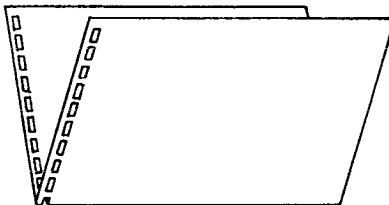

Figure 4.8
6. Remove the sheet and fold it in half to check that the holes line up properly (Figure 4.8).
7. Remove the sheet and fold it in half to check that the holes line up properly (Figure 4.8).